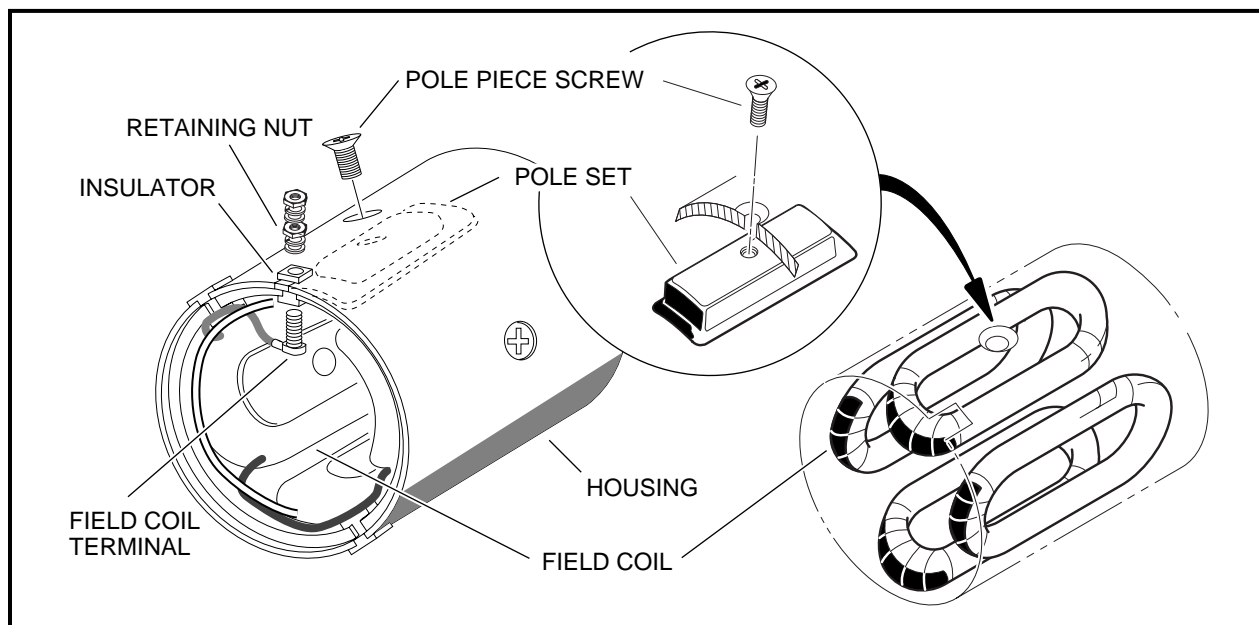

Figure 12-11 Field Coil Assembly
1. Remove the retaining nut from each field coil terminal and slide the insulator out of the slots in the housing. Remove the four pole piece screws from the housing. Remove the four pole pieces from inside the housing. Remove the field coils from the inside of the housing (**Figure 12-11, Page 12-8**). **See following NOTE.**
- DO NOT REMOVE THE INSULATORS OR THE FIELD COILS UNLESS AN ELECTRICAL TEST INDICATES THAT IT IS NECESSARY (**FIGURE 12-11, PAGE 12-8**). **SEE SECTION 11, TEST PROCEDURE 8, PAGE 11- 25.**
2. After the insulators are seated in the slots, install the threaded terminals through the wire connectors and then through the insulators. Install a flat washer, lockwasher and nut onto each threaded terminal on the outside of the housing and tighten to 47.5 in-lb (5.4 N-m) **(Figure 12-11, Page 12-8)**.
3. Install the four pole pieces into the housing. Use the four screws to secure pole pieces to the inside of the housing to retain the field wires. Tighten screws to 9 ft-lb (12 N-m) **(Figure 12-11, Page 12-8)**.
4. Slide the bearing retainer onto the output end of the armature shaft (33) so that it will hold the outside of the bearing (35) only.